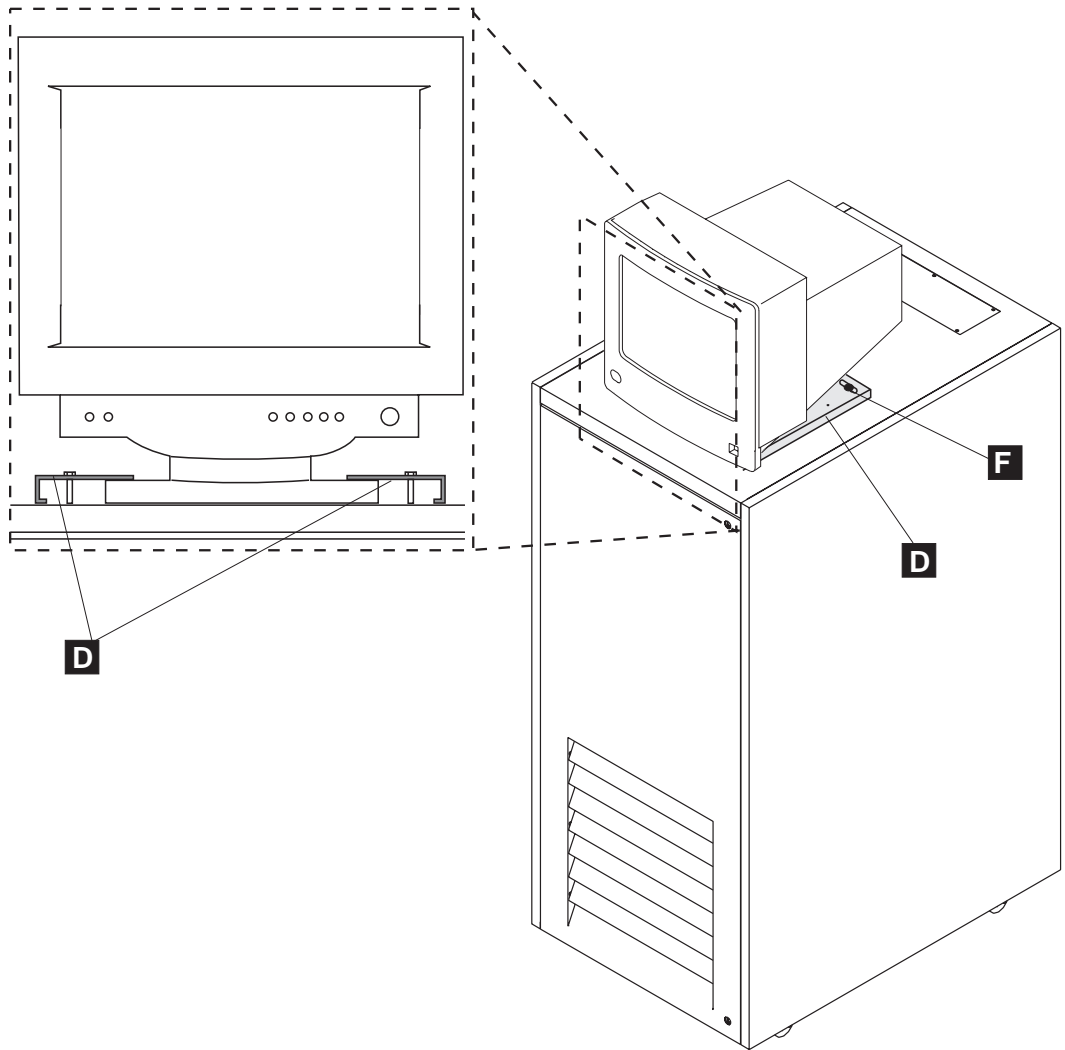

Figure 6-7. Display Installation on top of 29 U Rack
- b. Slide the pedestal display under the safety retainers (see Figure 6-7 on page 6-6).